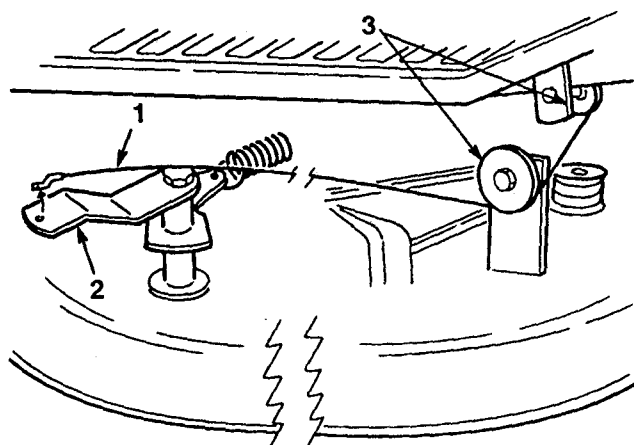

Figure 45
9. Loop blade control cable around the two roller guides and hook the end into the hole in the idler arm on the mower (Fig. 45).